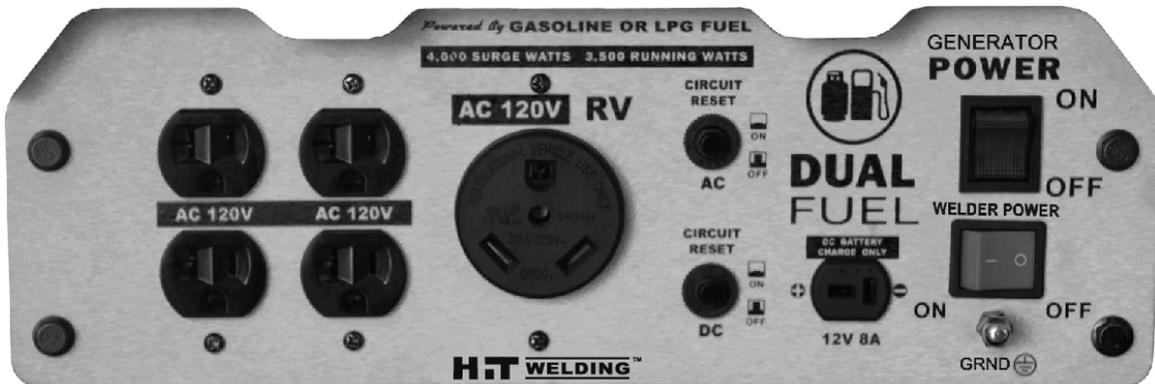

Figure 8 - Outlets available on this generator, from left to right: 4 each 120V AC, 120V AC RV and 12V DC.
**NOTE:** Plug appliances into the correct outlet. Connect standard 120 Volt, single phase, 60 Hz loads to the 120 Volt outlet. See Figure 8 for an illustration of these outlets.